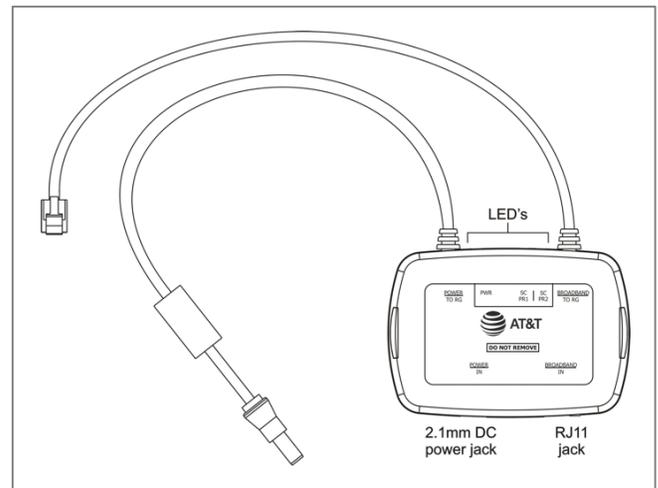

Figure 1. CPS1436
The CPS1436 (Figure 1) delivers direct current (DC) over one or two DSL copper loops to prevent splice oxidation that can degrade service performance. The device is installed at customer premises, between a residential gateway and the interface to the outside plant.